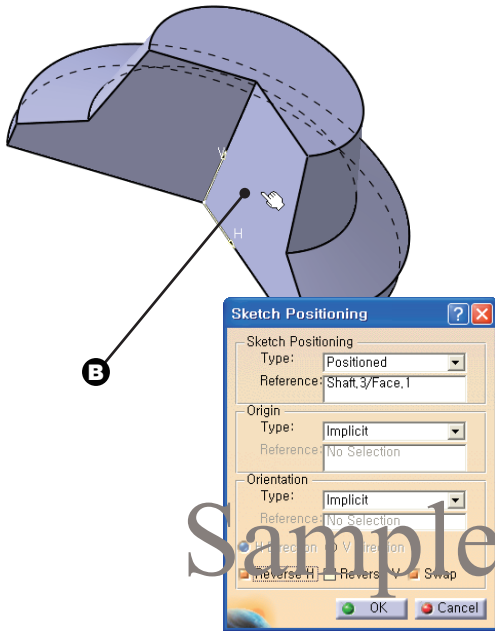

Fig 6-25 The Second Sketch Plane
1. Choose the **Positioned Sketch** button from the **Sketcher** toolbar and select the plane **B** shown in Fig 6-25. Align the H and V axis as it appears in the figure.